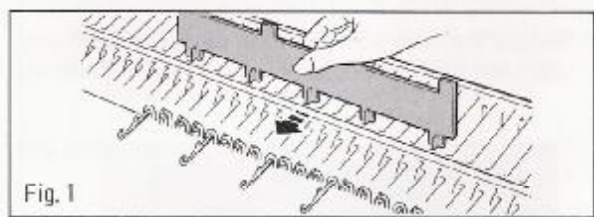

Fig. 1
2. Push every fourth needle to D position from B position using 1/3 Needle Pusher starting from the left end needle. (Fig. 1)